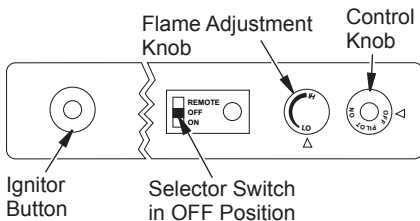

Figure 31 - Control Knob and Ignitor Button Location
4. Press in and turn control knob clockwise  to the OFF position (see Figure 31).
5. Wait five (5) minutes to clear out any gas. Then smell for gas, including near the floor. If you smell gas, STOP! Follow "B" in the safety information, page 19. If you don't smell gas, go to the next step.
6. Press in and turn control knob counterclockwise  to the PILOT position. Press in control knob for five (5) seconds (see Figure 31).